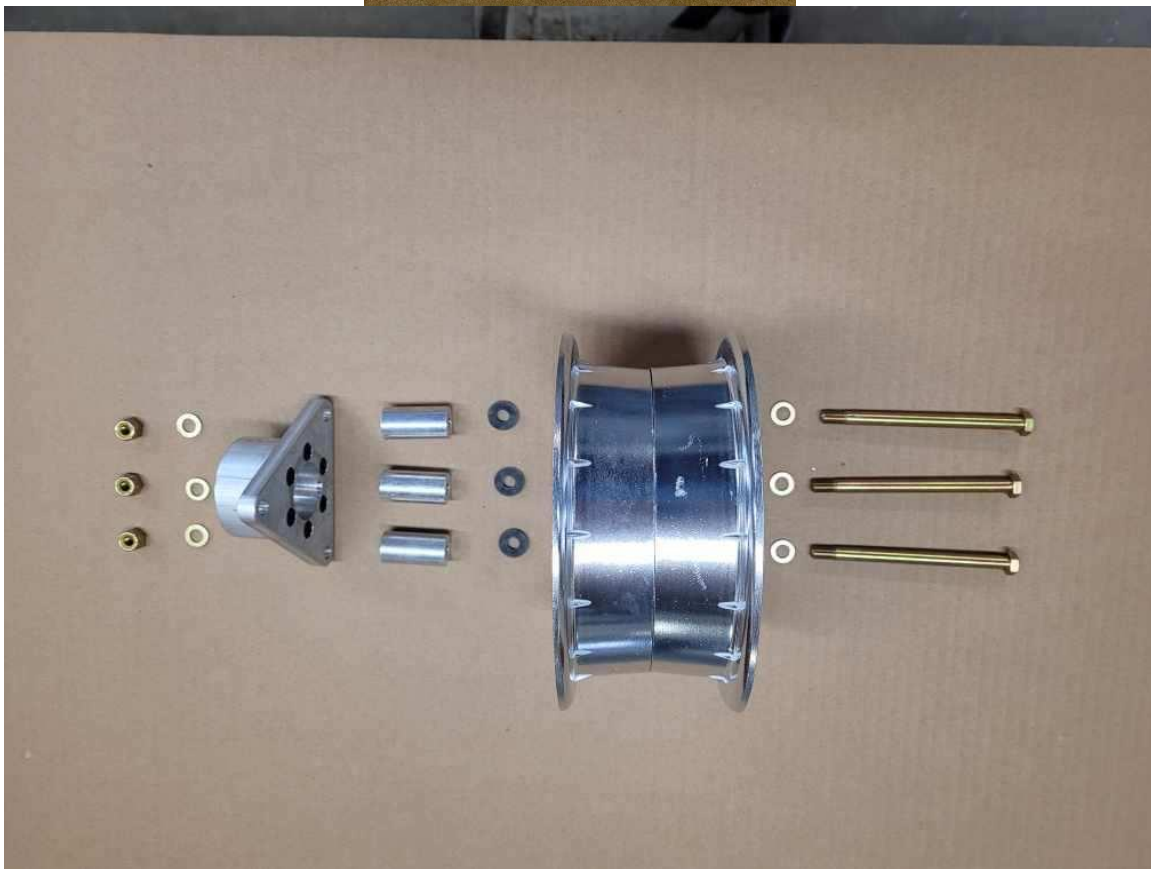

Figure 16B – Disc Brake Hub, washers and spacer installation for Tundra Tires
STEP 6E – (Aluminum Rim with 18” tundra tires) Assemble the aluminum tires, tubes and rims. The tube should be inserted inside the tire. Each half of the rim should then be placed inside the tire paying careful attention to the location of the valve stem. The tube should then be slightly inflated to hold everything in place. Not much pressure is required initially. (3) AN5-42A bolts should then be used to bolt the rims, spacers and hub together. PAY CLOSE ATTENTION TO THE LOCATION OF WASHERS AND SPACERS IN THE FOLLOWING FIGURE 16B. THE RUBBER WASHERS CAN BE ON EITHER SIDE OF THE SPACER. THESE WASHERS ALLOW FOR TRUE UP OF THE ROTOR